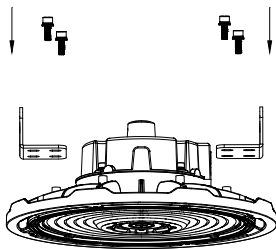

Figure 10
3. Attach the L-shaped yoke mount brackets onto the fixture. (Figure 10)